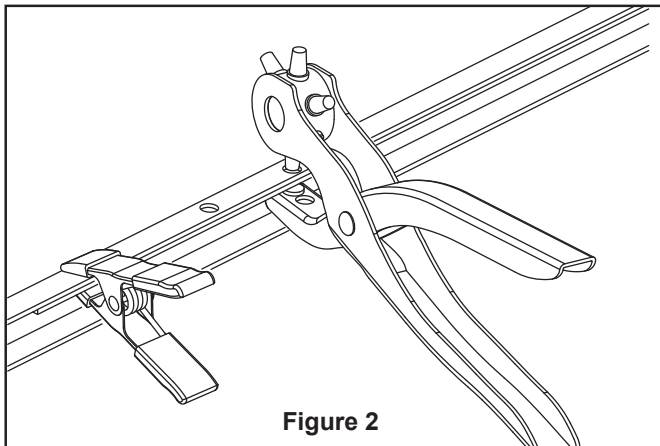

Figure 2
2. Punch two holes (approximately 1/8 inch in diameter) through the overlapping belts, spacing them one inch apart with the punch tool supplied. (Figure 2)